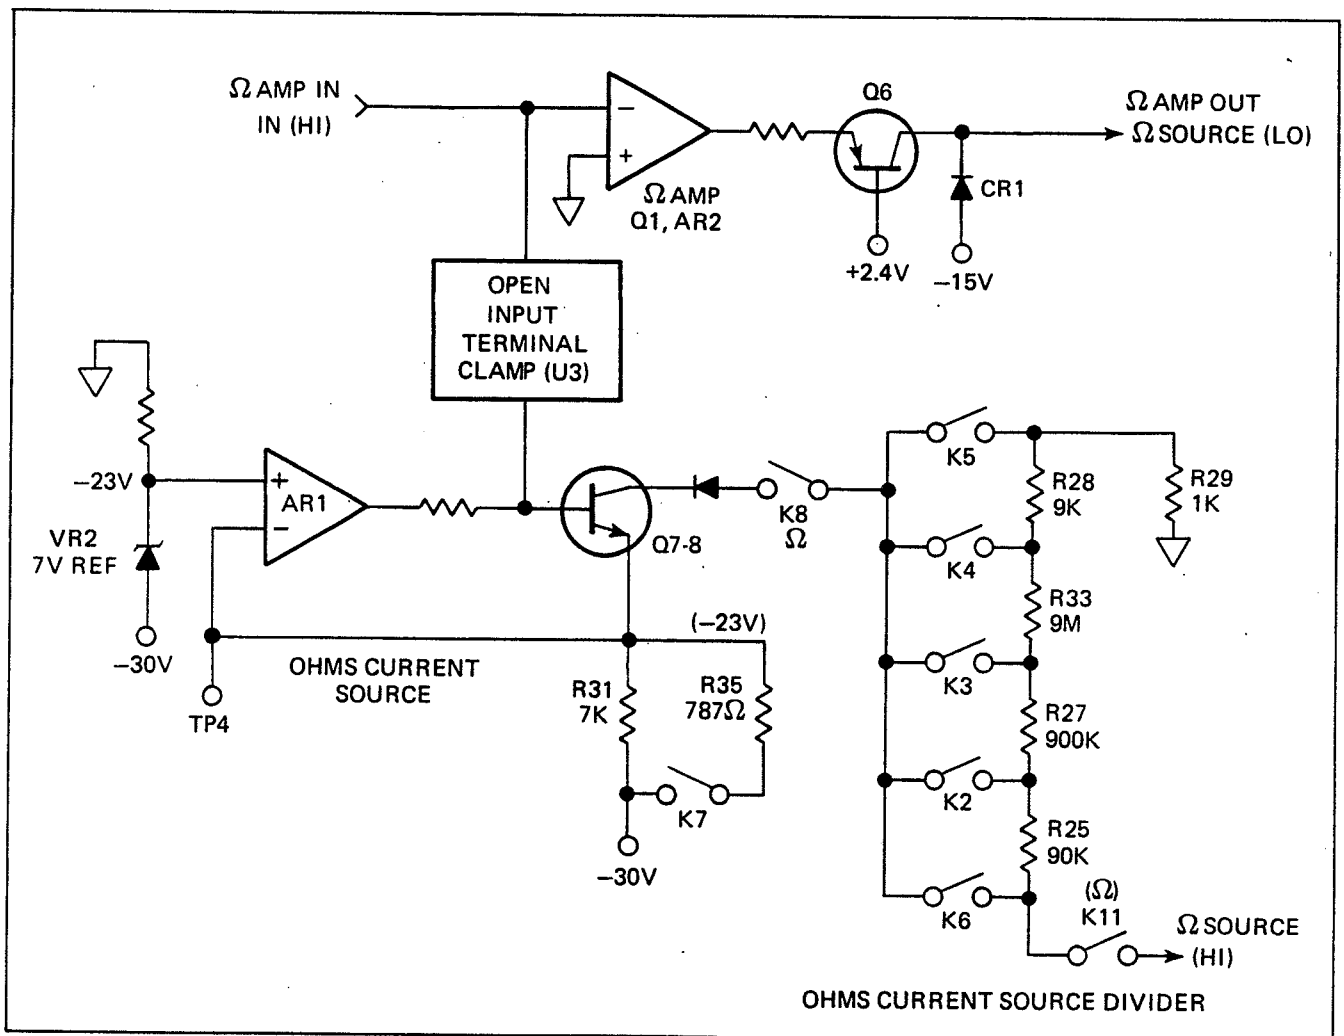

Figure 4.5 - Simplified Ohms Converter
4.3.5.2 The Ohms current source utilizes an accurate reference voltage to generate a reference current source through the resistor divider and current switching network, refer to Figure 4.5. An open input-clamp is also part of the ohms converter circuit. The ohms voltage reference is a 7 volt temperature-stabilized zener, VR2. The 7 volt reference is buffered by the ohms current source generator op-amp AR1. The current through darlington transistor pair Q7 and Q8 is determined by R31 and R35. This network supplies 1 mA or 10 mA to the current-divider network. Relay K7 switches R35 in parallel with R31 to generate the 10 mA current source. The lower Ω source currents required for the 10K, 100K, 1000K and 10,000K Ω ranges are established by dividing the Ohms CURRENT SOURCE output. The current divider consists of R25, R27, R28, R29 and R33 and the division is controlled by range relays K2-K6. The ohms ranges, current sources and the range relays are shown in Table 4.4.